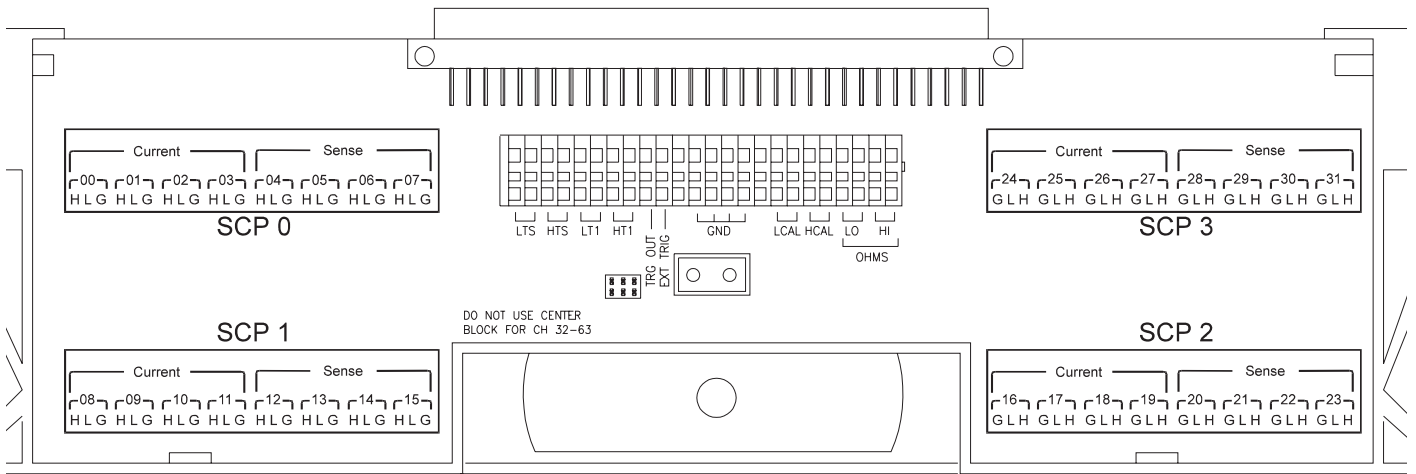

Figure 3. VT1518A B-size Terminal Module Connections (Ch 00-31)
- For the Agilent/HP E1313A, use the label sheet marked B-size (Figures 3 and 4).